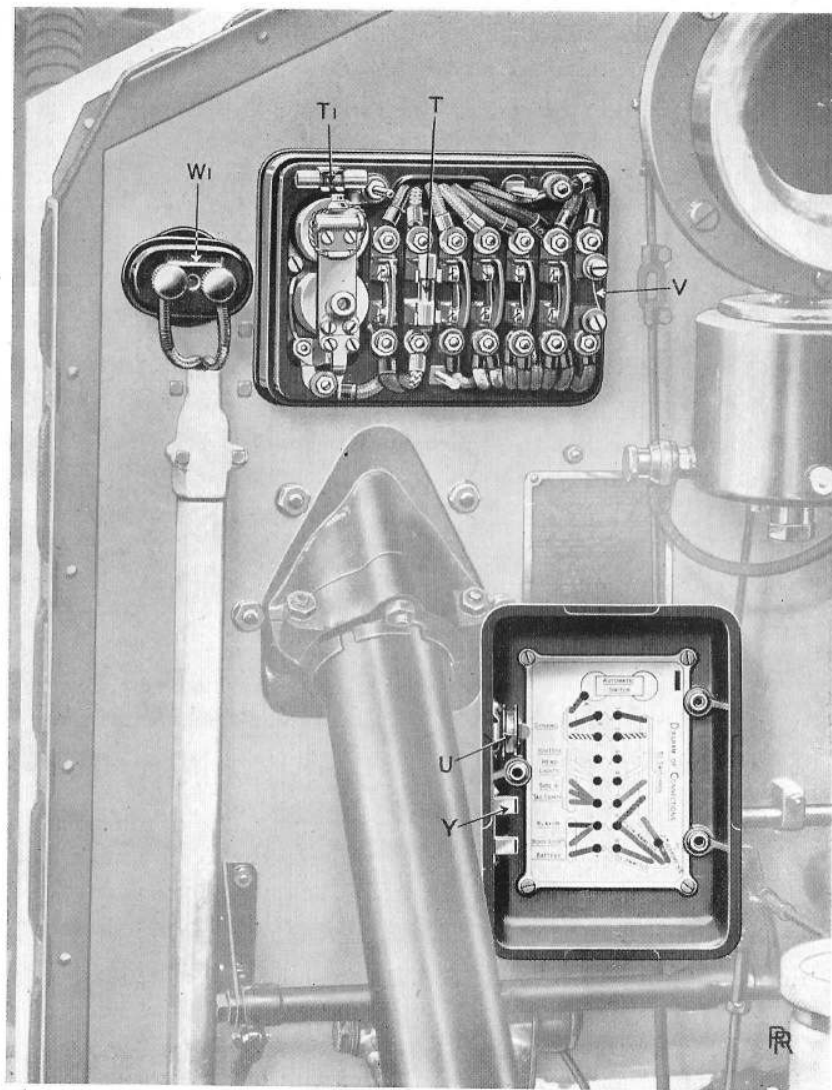

FIG. 7.
**Distribution Box.** The distribution box containing the cut-out, or automatic charging switch, together with a series of fuses, is shown with the cover removed in Fig. 7. The cut-out and fuses are easily accessible on removing the cover.
The fuses in the distribution box, with exception of the battery emergency fuse **V** (Fig. 7), and dynamo field fuse **T**, which is of the cartridge type, are all of a single strand of 30 S.W.G. copper wire. Spare wire of this size is provided on a reel **U**, in the inside of the box cover.
A ballast resistance **W1** (Fig. 7) is arranged on the dash, connected in series with the low-tension winding of the coil. Its function is to limit the current taken by the coil at slow speed, or if the ignition switch be accidentally left on while the engine is stopped. It also secures practical equality of intensity of secondary spark at all speeds.
as described, and change over these two high-tension terminals. It must be remembered that the magneto ignition is provided, not as an alternative ignition, but as a stand-by, to ensure reliability. The characteristics of its application to the engine are not such as will give as good power performance as the battery ignition, and this must not be expected. Usually, therefore, the magneto will only be used when there is no battery connected to the system, in which case, as elsewhere explained, there will be no supply of current. Should, however, circumstances call for use of the magneto in spite of the presence of the battery, it is then important to remove ignition fuse No. 3 from the distribution box and so independently cut off the supply that would otherwise go to the battery ignition in the "on" position of the switch. A dummy fuse holder is provided in the distribution box cover, as shown at Y, in Fig. 7, for the reception of fuse No. 3 when this is removed from its working position.